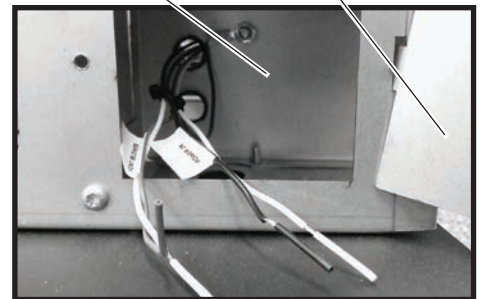
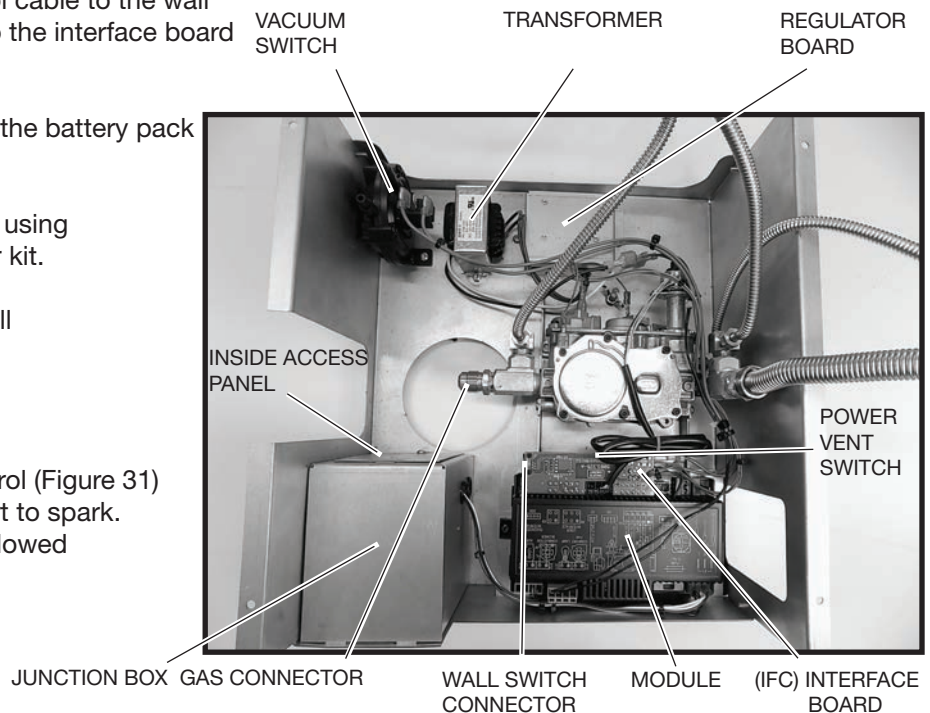
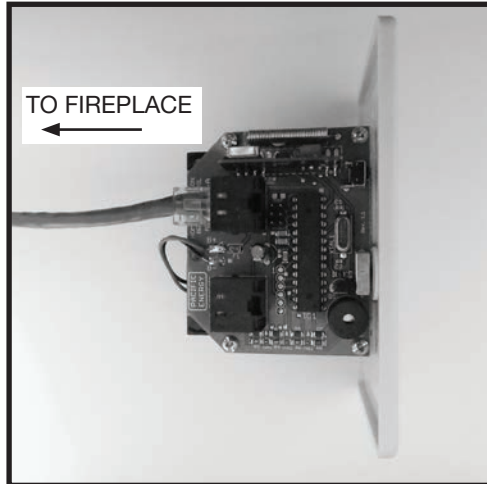
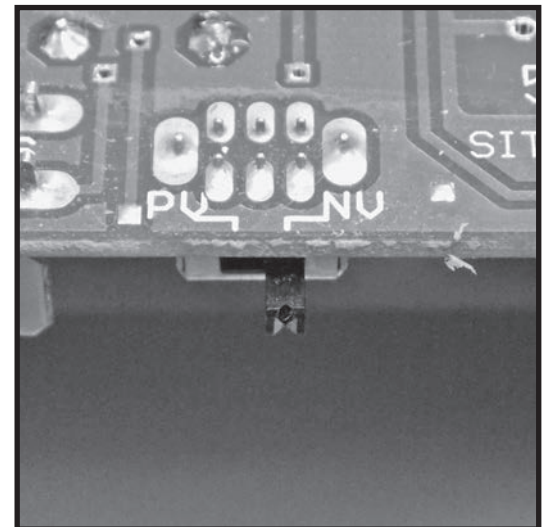

Figure 29: Junction box wiring.
Figure 30: Valve assembly components.
Figure 32: Wall switch interface side.
Figure 34: Vent mode selection switch.
4. Connect 110 V. AC electrical supply to the wires installed inside the junction box (Figure 29). The fireplace is rated at 110 volts, 60Hz, 0.25A. The optional power vent kit is rated at 115 volts, 60Hz, 1.8A.
The electrical wires can be accessed from both inside and outside the junction box by removing one of the two small access panels (Figure 29) or (Figure 30).
6. Route the wall switch control cable (supplied) as required to the wall switch (Figure 32).
7. Attach one end of the wall switch control cable to the wall control. (Figure 32), and the other end to the interface board (Figure 30).
The PV / NV (Power Vent / Natural Vent) switch (Figure 34) on the interface board (Figure 30) is set according to which type of evacuating vent system is present. If the fireplace is vented without the assistance of a power vent, the switch should be set to "NV". If using a power vent, "PV" should be selected. Follow the instructions provided with the power vent kit for proper installation.
1. Connect the gas supply to the valve (Figure 30).